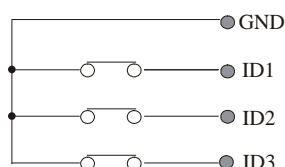

Fig. 3.3.1
The digital inputs ID1, ID2, and ID3 are optically insulated and suitable for 24Vac/dc signals with “normally closed” logic (at the contact opening there is alarm condition). To simplify the wiring it is possible to get the 24Vac/dc power supply from the GND terminal (see Fig. 3.3.1). In fact J3 jumper can be placed as follows:
- in position 1-2 (**INT - ID COM**): digital inputs powered internally (Fig. 3.3.1);